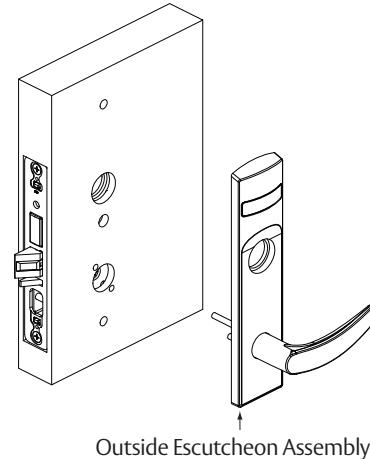

Figure 7
2. Align trim posts with diagonal holes in door, be sure lever is horizontal. Slide outside escutcheon assembly through lock body from outside door face. (Figure 7)